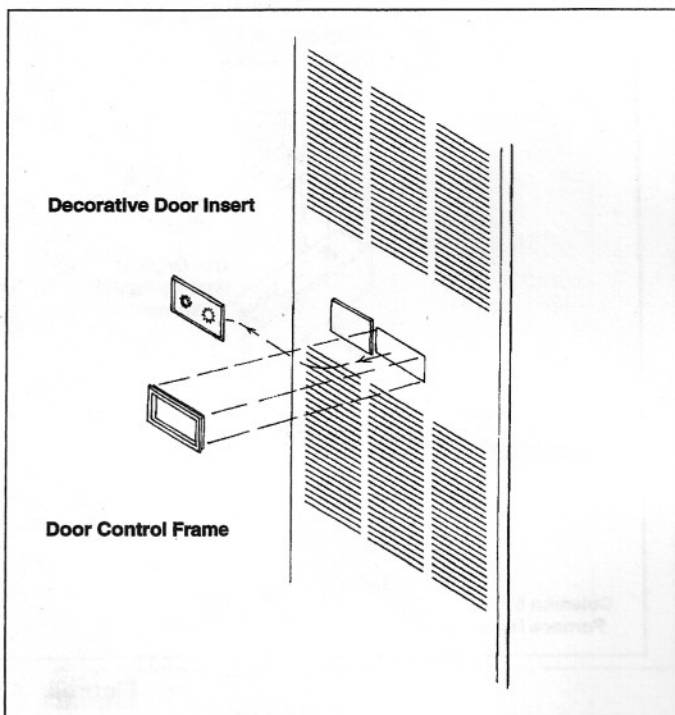

Figure 1. Furnace Door
2. Remove the decorative door insert in the door to provide access to the switches. Insert the door control frame, found with the relay box kit, in place of the decorative insert (see Figure 1).